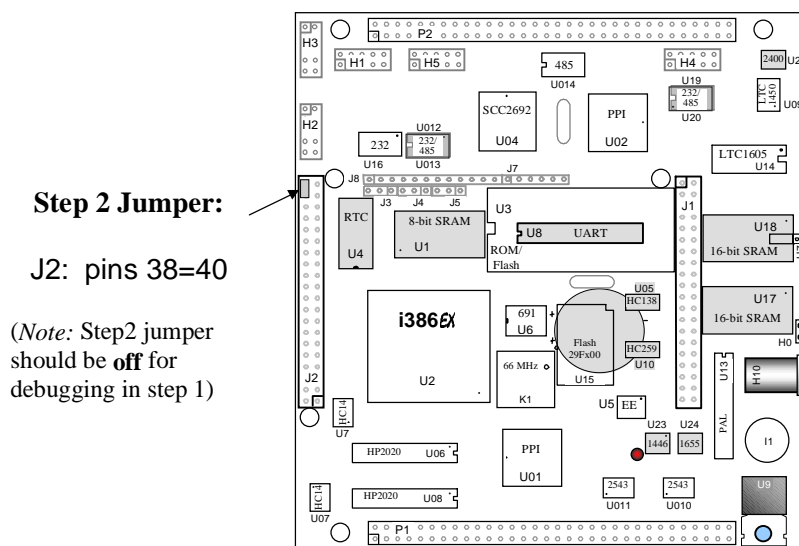

Figure 1.5 Location of Step 2 jumper on the i386-Drive
- Set the jumper on J2 pins 38-40 on the i386-Drive (Figure 1.5).